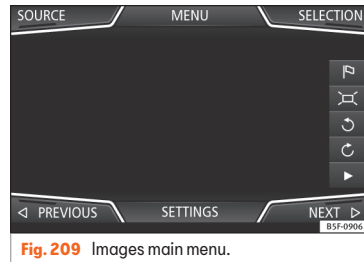

Fig. 209 Images main menu.
- Press the **SOURCE** »» Fig. 209 function button and select the data storage device where the images are stored.